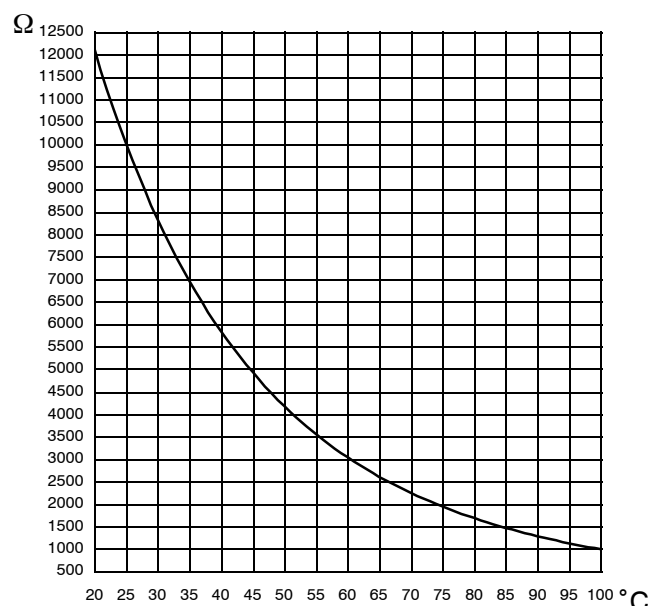

Fig. 13.3
- 2 Measure the Flue temperature probe NTC electrical resistance at the ambient temperature and check it according to the graph in Fig. 13.3